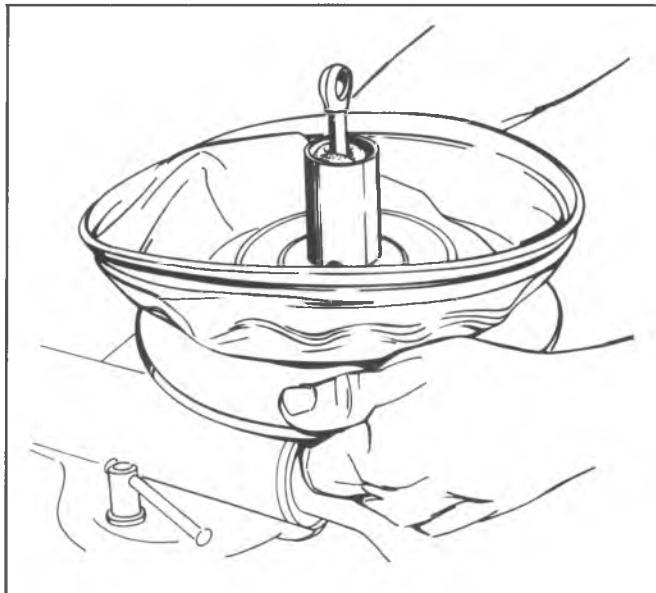

Fig. 5-9A--Locking or Unlocking Primary Support Plate From Primary Power Piston
10. Fold back primary diaphragm from the support plate. Grip the edge of the support plate and rotate in a counterclockwise direction to unlock the primary support plate from the primary power piston (fig. 5-9A).
17. Grip the edges of the primary support plate, press down, and rotate clockwise until the tabs on the primary power piston contact the stops on the support plate (fig. 5-9A).